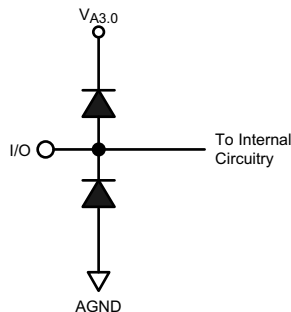

Figure 1.
- (1) The inputs are protected as shown below. Input voltage magnitudes above  $V_{A3.0}$  or below GND will not damage this device, provided current is limited per Note 4 of the Absolute Maximum Ratings table. However, errors in the A/D conversion can occur if the input goes above 2.6V or below GND as described in the Operating Ratings section see Figure 1.
- (2) Typical figures are at  $T_A = 25^\circ C$  and represent most likely parametric norms at the time of product characterization. The typical specifications are not ensured.
- (3) The input capacitance is the sum of the package/pin capacitance and the sample and hold circuit capacitance.
(1) The inputs are protected as shown below. Input voltage magnitudes above  $V_{A3.0}$  or below GND will not damage this device, provided current is limited per Note 4 of the Absolute Maximum Ratings table. However, errors in the A/D conversion can occur if the input goes above 2.6V or below GND as described in the Operating Ratings section see Figure 1.
(2) This parameter is specified in units of dBFS – indicating the equivalent value that would be attained with a full-scale input signal.
- The inputs are protected as shown below. Input voltage magnitudes above  $V_{A3.0}$  or below GND will not damage this device, provided current is limited per Note 4 of the Absolute Maximum Ratings table. However, errors in the A/D conversion can occur if the input goes above 2.6V or below GND as described in the Operating Ratings section see Figure 1.